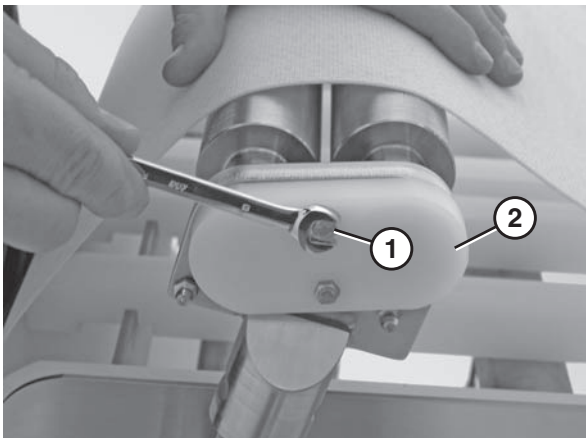

Figure 81
2. Remove the transfer bearing screws (Figure 81, item 1) and the cover (Figure 81, item 2) using an 8 mm wrench.